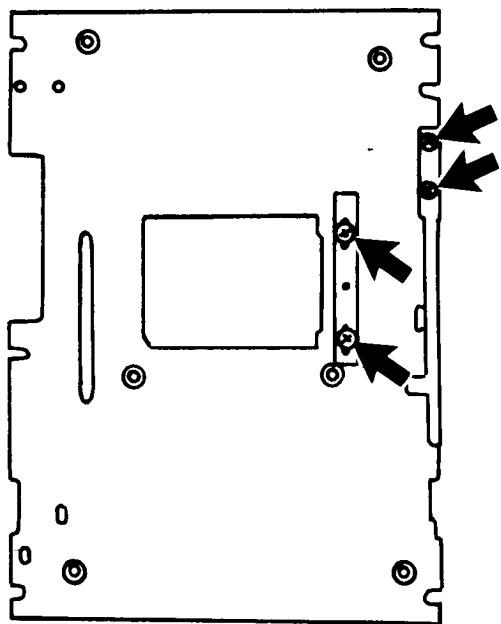

Figure 4-19 Removing Latch Mechanism and Camera Back Stop Screws
6.1 Remove the two screw holding it. (Fig. 4-19)
7.1 Remove the two screw holding it. (Fig. 4-19)